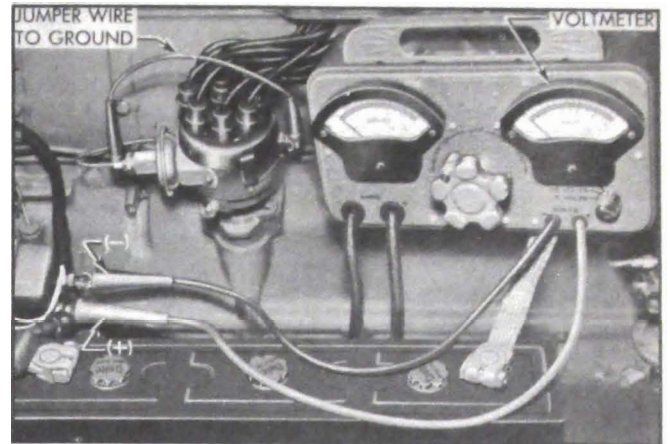

Figure 10-47—Solenoid Switch Contact Test Connections
6. Connect voltmeter negative (-) lead to the motor terminal of solenoid switch, and connect positive (+) lead to battery terminal of switch. Turn voltmeter switch to low voltage scale. See figure 10-47.